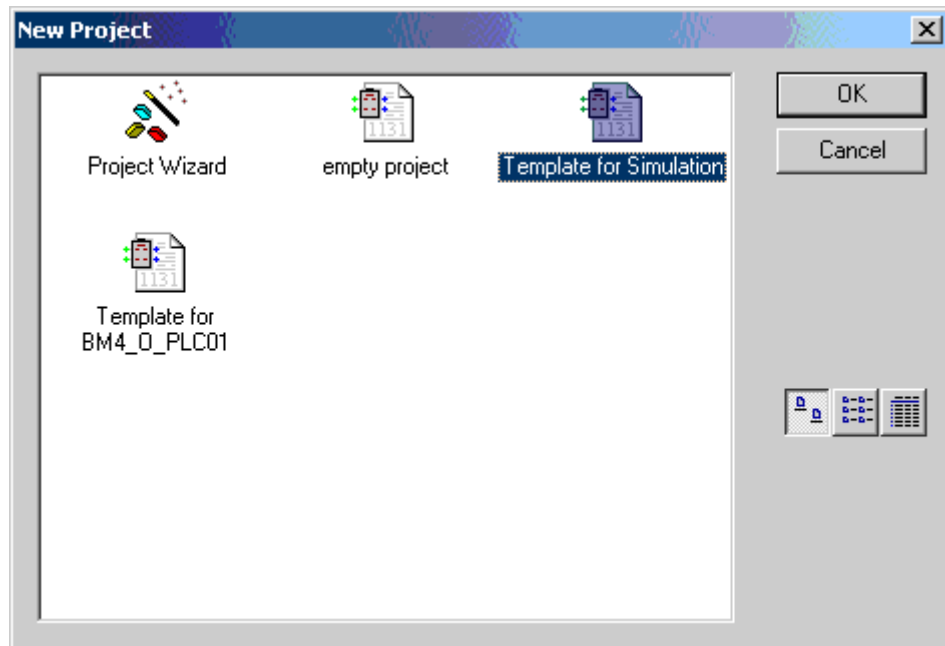

Figure 28: Dialog 'New Project' containing the available project templates and the Project Wizard
- Click on the icon 'New Project' in the toolbar. The dialog 'New Project' appears (see ▶Figure 28:◀ on page 54).
- Press <CTRL> + <N>. The dialog 'New Project' appears (see ▶Figure 28:◀ on page 54).